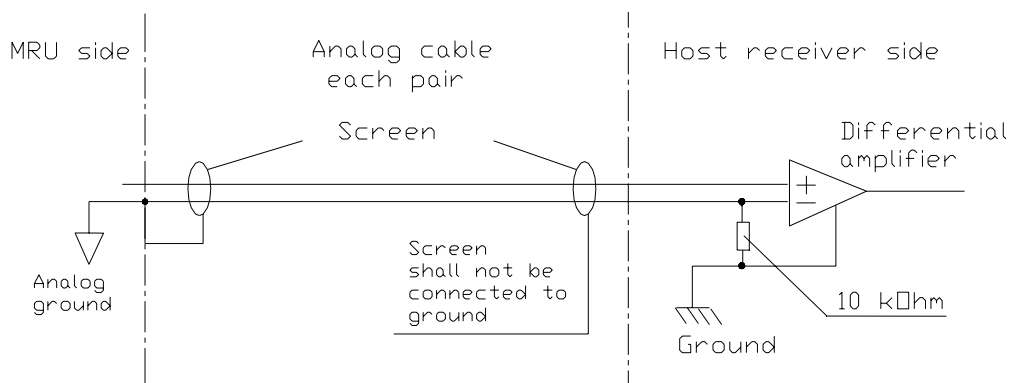

Figure 9 Cable connections to drive the analog signal through 200 metres of cable
- When using an analog cable up to 200 metres, each pair should have its own screen and the square should be  $0.22 \text{ mm}^2$  or higher. A differential input A/D converter must be used and connected as shown in Figure 9.